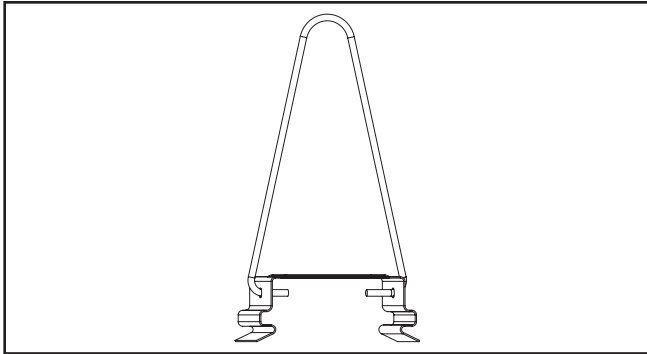

Figure 4.
5. Attach V- bracket to each mounting clip by spreading the ends of the V-bracket apart and then inserting the legs into the holes in the side of the mounting clips. (Figure 4)